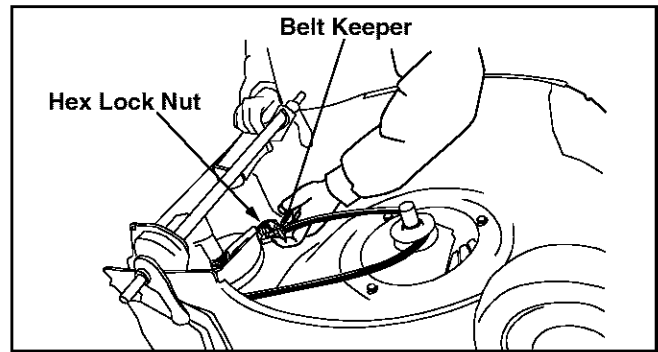

Figure 21
- Loosen the hex lock nut holding the idler bearing. Push back and rotate the belt keeper. See Figure 21.